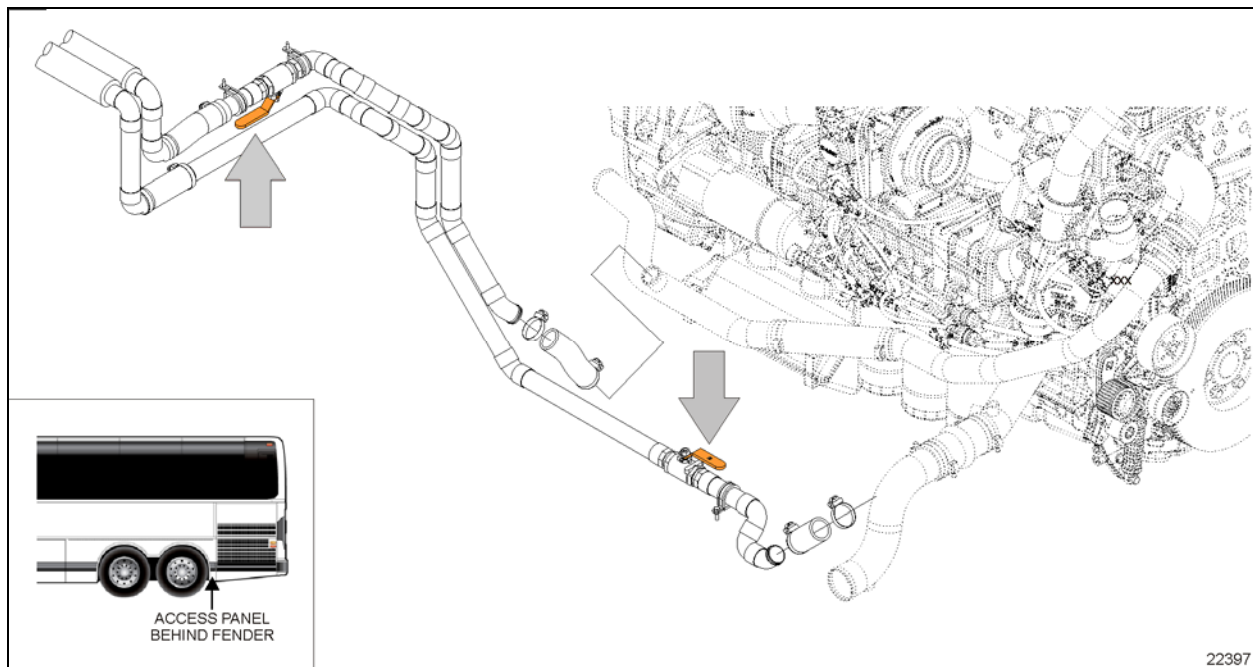
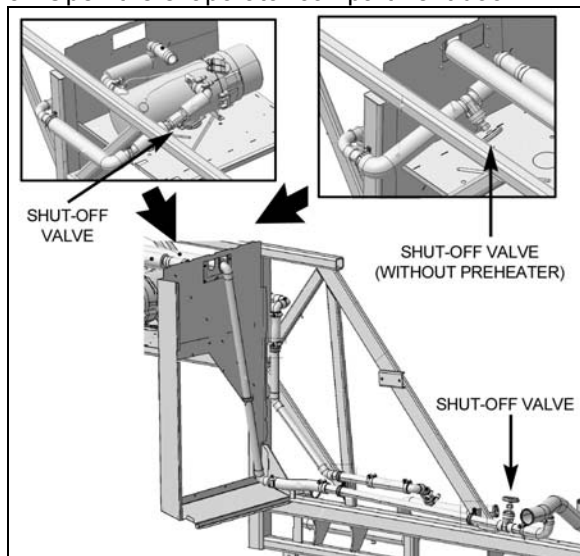

FIGURE 72 X SERIES HEATER LINE SHUT-OFF VALVES- (ALLISON TRANS. PIPING ARRANGEMENT SHOWN)
FIGURE 73: H3 SERIES HEATER LINE SHUTOFF VALVES
3. Close the hot water lines shut-off valves located next the engine on street side (see Figure 72 or Figure 73).
2. Close both heater line shutoff valves (Figure 72 or Figure 73). One is located in the engine compartment, lower road side, near the radiator while the other one is located behind the L.H. hinged rear fender near the preheater.